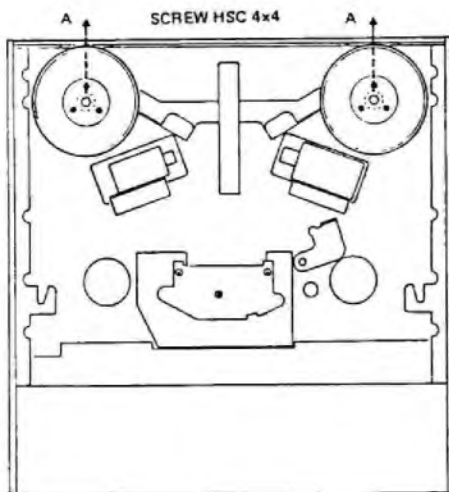

Fig. 6.7
- * Remove the two (C) screws and take off the bracket to replace the capstan belt.
6.9 REEL MOTOR ASSEMBLY (Figs. 6.7 and 6.8)
- * Loosen the two (A) screws at left and right to remove the reel drums. Then, removing three each of screw (B), on the left and right side, and the assembly can be lifted out.